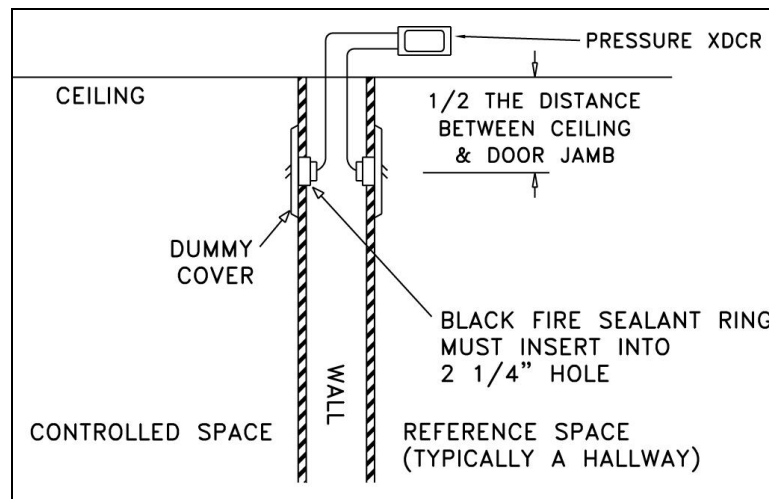

Figure 6: Cutaway View of Mounted Pressure Transducer Assembly
WARNING: 801913 pressure plates must be mounted in the wall between the controlled space (clean room) and referenced space (hallway), exactly as shown in Figure 6 and 7.
7. Insert the pressure plate into the hole in the wall. Screw the pressure plate to the wall. The finished assembly should look like Figure 6.